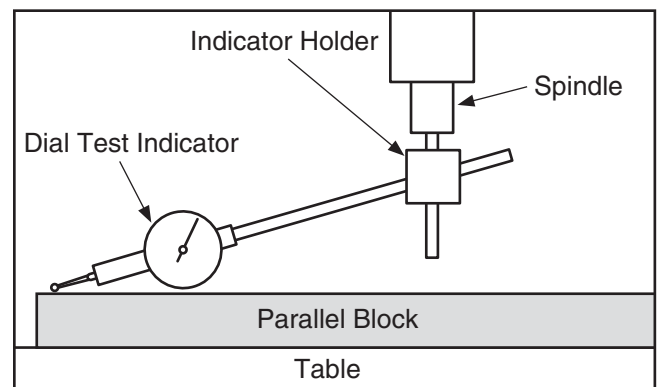

Figure 30. Dial test indicator mounted.
6. Measure spindle alignment along the X-axis at one end of the parallel block (see **Figure 30**).